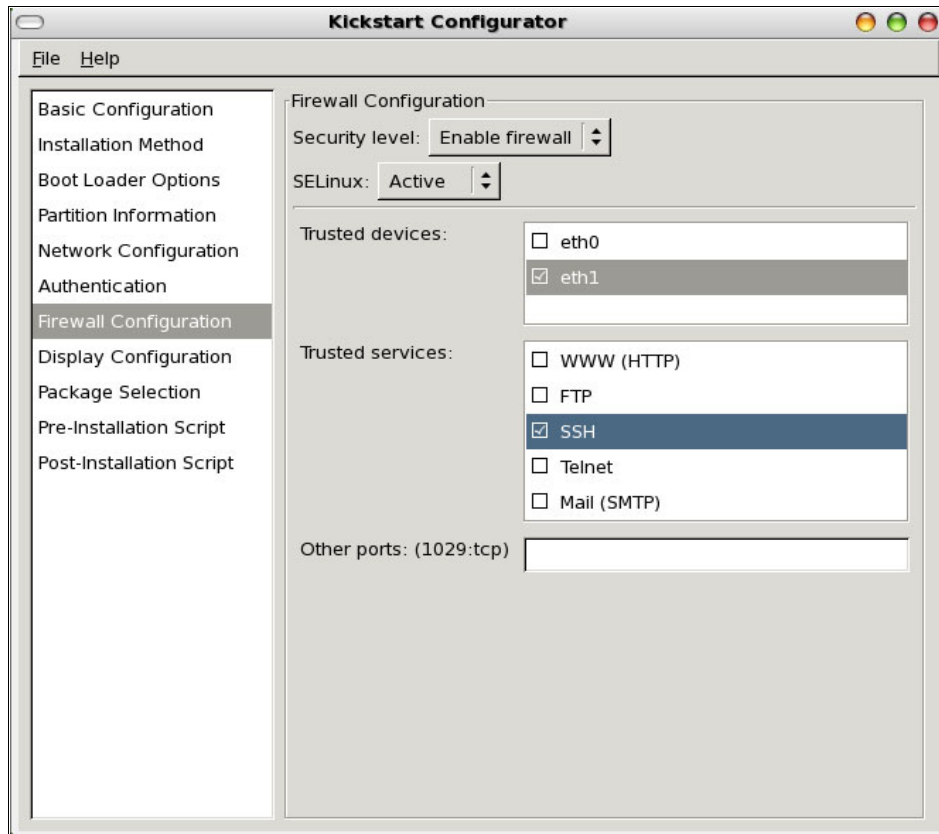

Figure 0-5 Firewall Configuration panel (©2008 Red Hat, Inc.)
7. Figure 0-5 shows the Firewall Configuration panel. As an example, it is good to enable SSH and to trust interface eth1 at the very minimum to access the system later using the network.